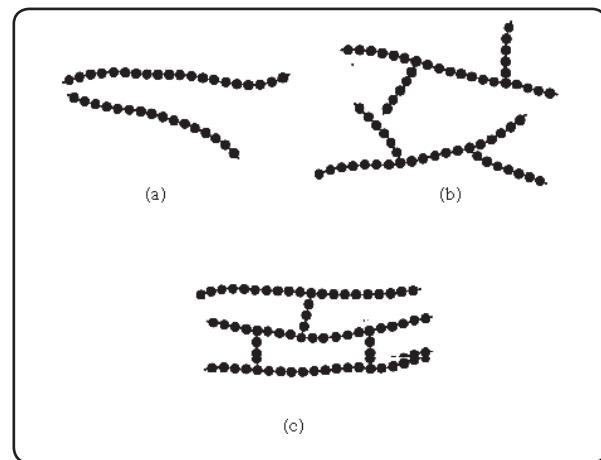

Fig. 15.1 : Different chain configurations of polymers
15.2.2 Classification of polymers on the basis of structure : Depending upon how the monomers are linked together, that is, the chain configuration, polymers are classified in three general types : a. linear b. branched and c. three dimensional cross-linked polymers (Fig. 15.1). The nature of linking the monomers depends upon the nature and number of functional groups in them.
bifunctional monomers or alkenes. (Fig. 15.1(a)). For example : PVC, high density polythene.
b. Branched chain polymers : The second most common arrangement is that of branched chain. Monomer having 3 functional groups or already having side chains give rise to branched chain polymers. (Fig. 15.1 (b)). For example : low density polythene.
c. Cross-linked polymers : Third type of arrangement is said to be cross linked or network polymers where cross links are produced between linear chains as shown in Fig. 15.1 (c). Cross linking results from polyfunctional monomers. For example, bakelite, melamine.